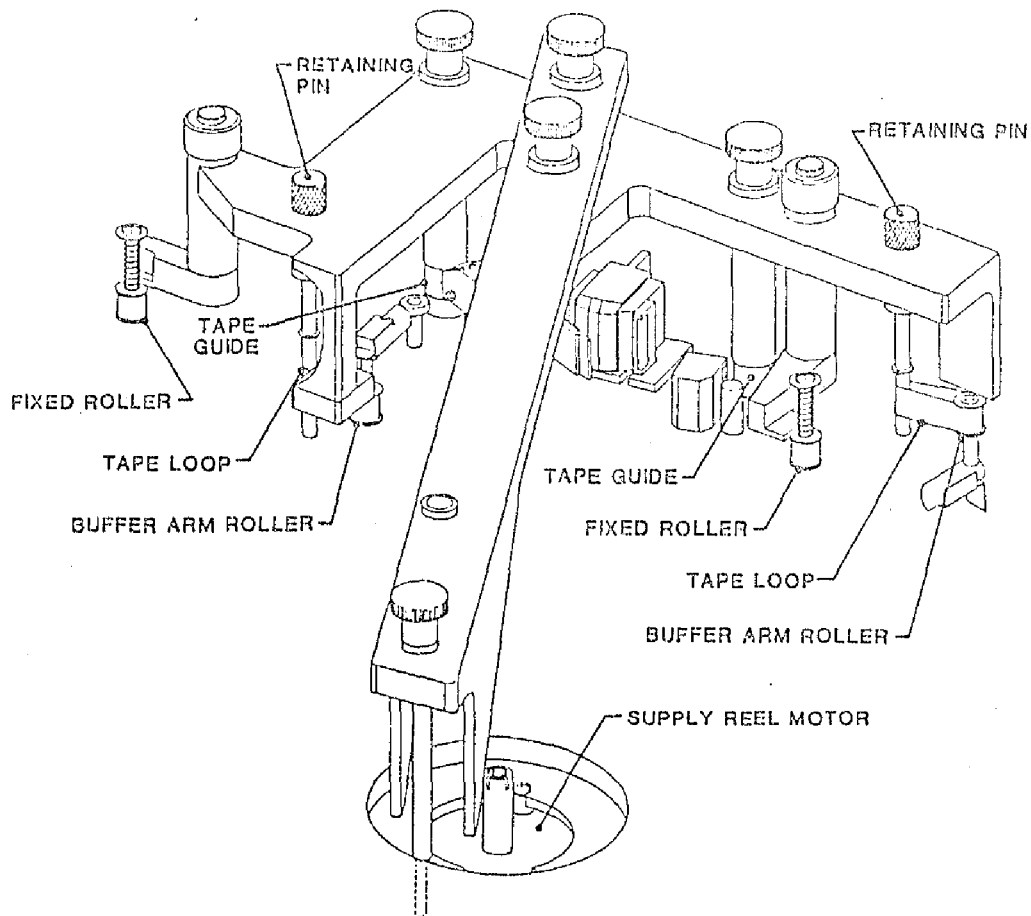

Figure 5-29. Tape Rollers Height Adjustment
5.4.2.1 BUFFER ARM ROLLERS & FIXED ROLLERS HEIGHT ADJUSTMENT (Fig 5-29)